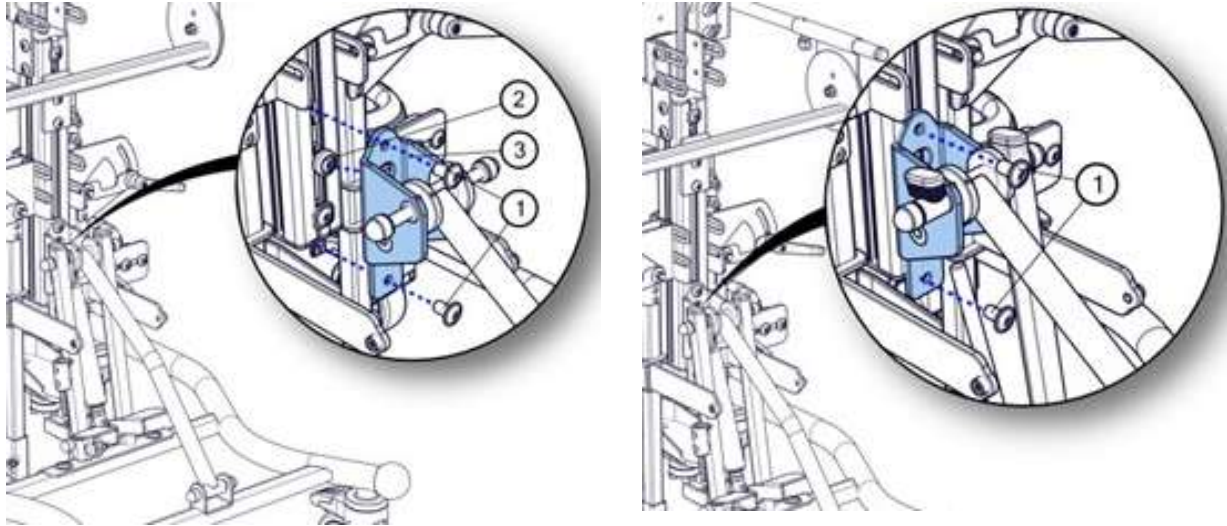
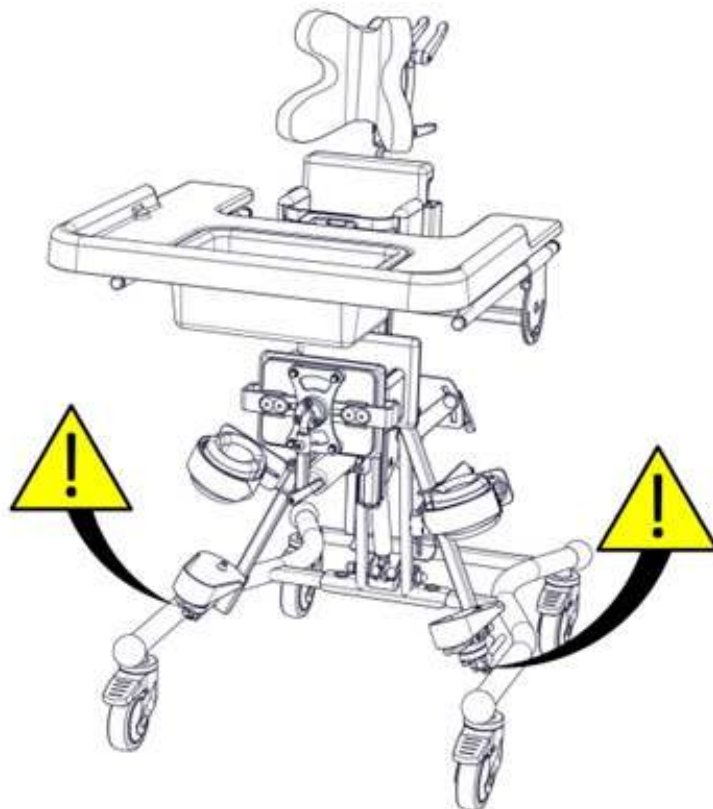

Fig. 5
Fig. 6
Fig. 5 and Fig. 6 To install the column on the standing frame, first unscrew the screws (1) and then place the pin (2) in the opening of the system profile holder (3). When aligning the column, make sure that the distance between the foot platform supports and the frame profiles (see Fig. 6.) is even. The last step of the installation is tightening the frame to the column with the previously unscrewed screws (1).